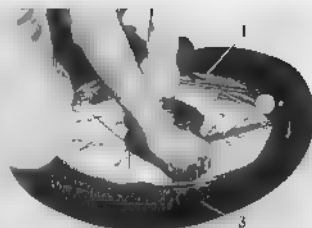

Fig. 4.100 Assembling on
2. Assemble the tube and tire (3) to the rim (1) by inflating the tube slightly so that it holds the shape, place inside the tire and then install the tire on the rim. (Fig. 4.100)